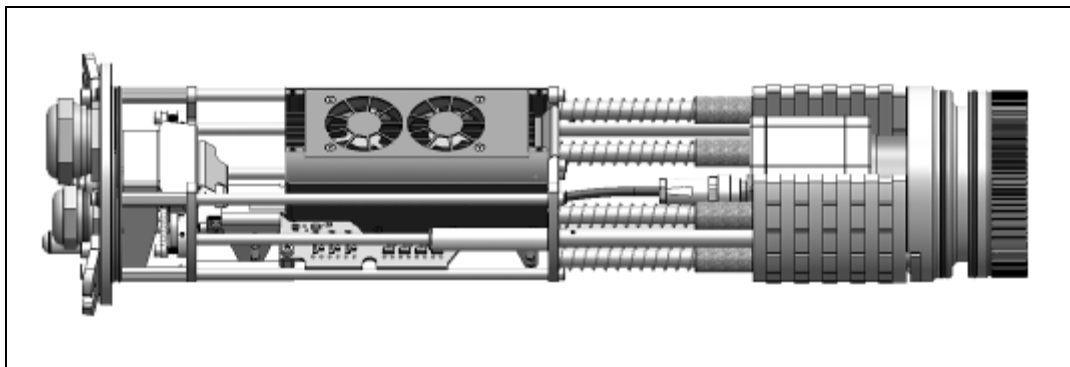

Figure 48: Chassis with PI camera, industrial PIF and PI NetBox
7. Then connect the PI camera and the PI NetBox with the provided USB cable and the Industrial PIF with the camera. Combine the network connector and the PI NetBox (**Figure 48**).